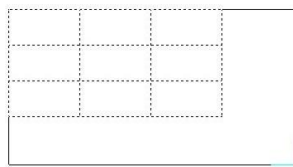

Fig 26
2. Move the cursor and the table will zoom. (Fig26)